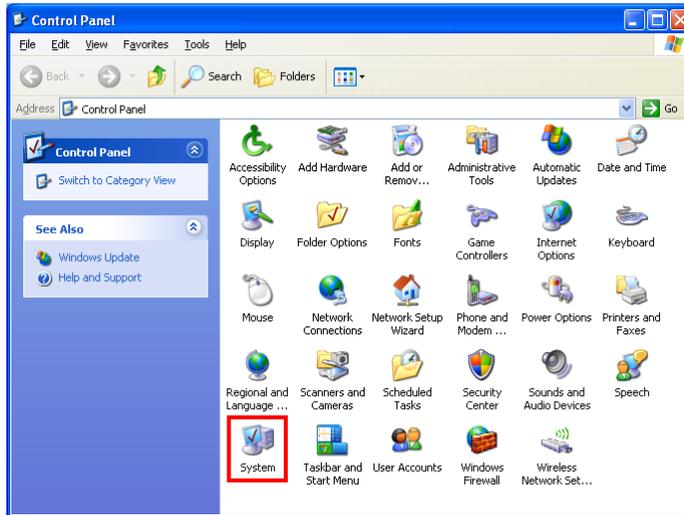

Figure 6-35: Double Click the System Icon
Step 2: Double-click the **System** icon (Figure 6-35).